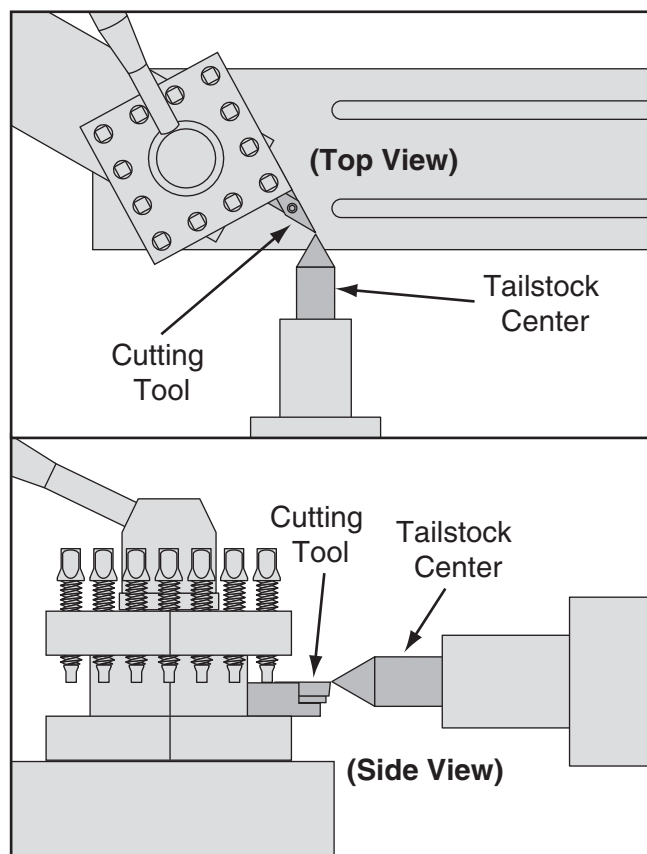

Figure 70. Cutting tool aligned to the tailstock center.
4. Adjust the height of the cutting tool so that the tool tip is aligned vertically and horizontally with the center tip, as shown in **Figure 70**.